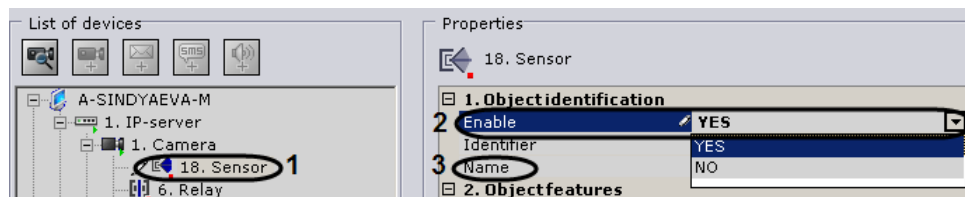

Fig. 6.3—17 Configuring a Sensor Object
1. Select a **Sensor** object in the objects tree (Fig. 6.3—17, 1).
2. Enable the device (Fig. 6.3—17, 2).